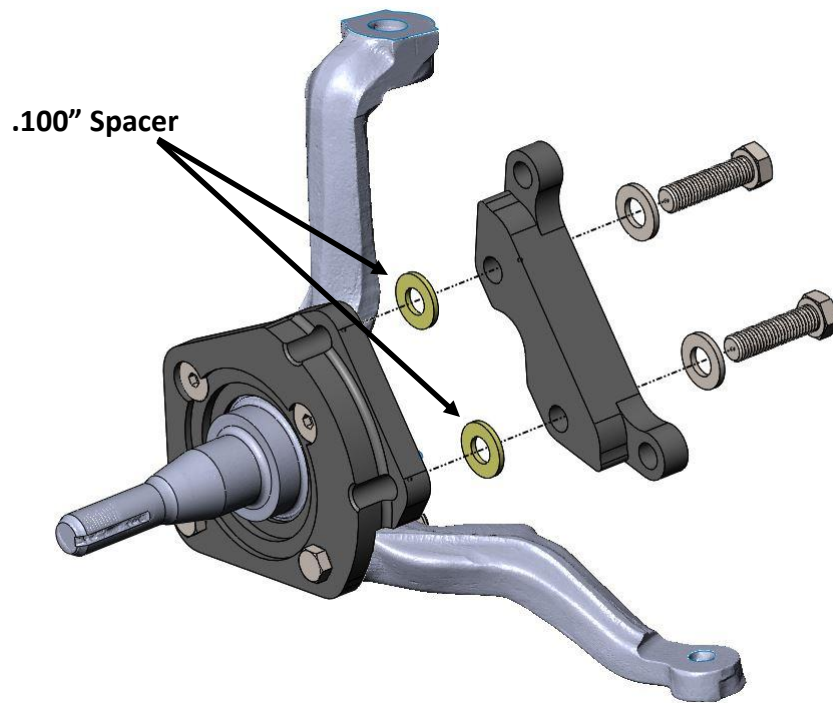

Figure 3 – Intermediate Caliper Mounting Bracket Installation (Driver Side Shown)
6. Install the intermediate caliper mounting bracket using the supplied M12-1.75 X 45mm Hex Head Bolts and Flat Washers along with the .100” thick spacer that is included in the shim package. **NOTE: Position the intermediate bracket to the base bracket with the step in the bracket facing outboard.** Like the primary brackets, the intermediates part numbers are driver (p/n: 6610165) and passenger (p/n: 6620165) specific. See Figure 3 on the next page for reference. **It is not necessary to torque at this point as these bolts may be removed at a later step when centering the caliper.**